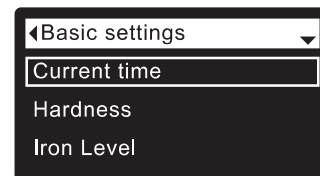

FIG. 99
3. Press the SELECT (O) button to display the Basic settings menu (See Figure 99).
7. Press the SELECT (O) button. The display will go back to the Basic settings menu (Figure 99).